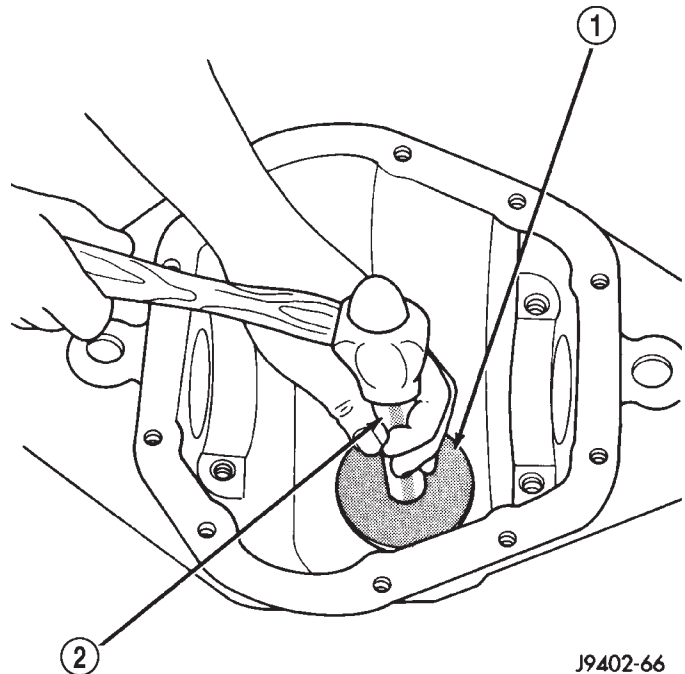

Fig. 57 Rear Pinion Bearing Cup Installation
(1) Apply Mopar® Door Ease, or equivalent, stick lubricant to outside surface of rear pinion bearing cup. Install the bearing cup with Installer D-146 and Driver Handle C-4171 (Fig. 57). Verify cup is correctly seated.